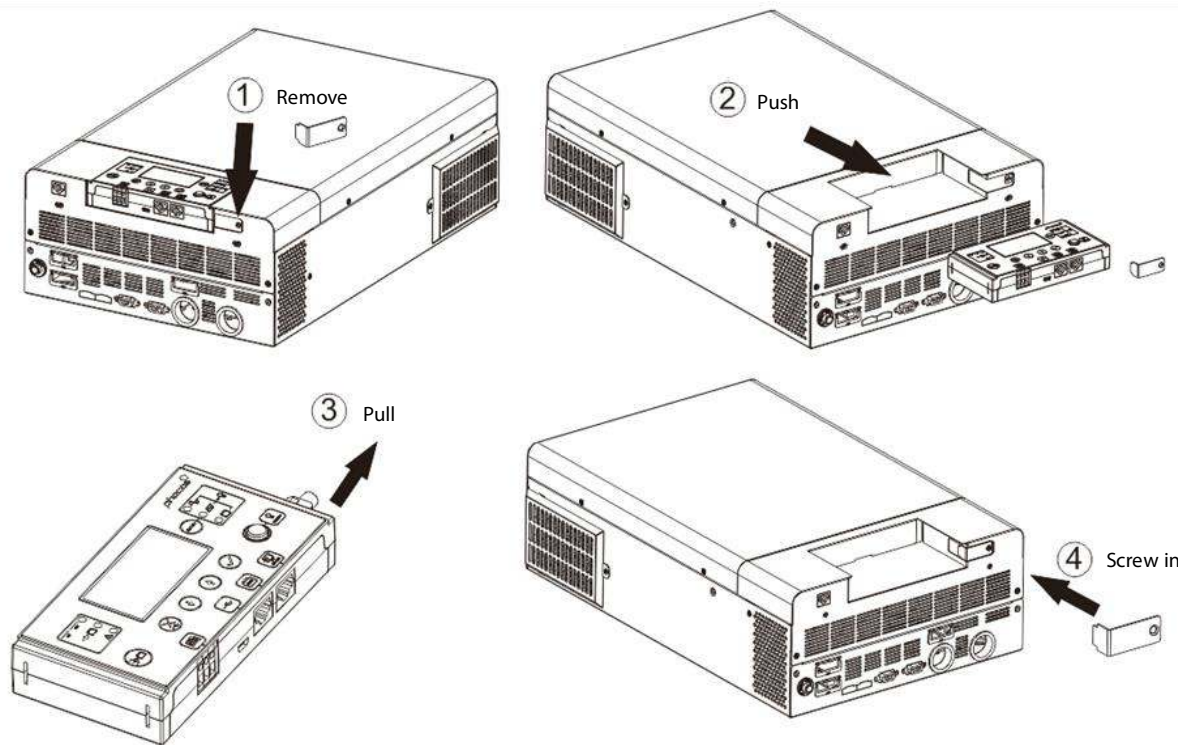

Fig. 11: Remote display removal
1. Remove the screw holding the bracket on the bottom of the display module (**Fig. 11** → ①) and push down the display unit from the case slightly while removing the metal bracket.
2. Keep pushing the display module down, taking care not to damage the connected cable (**Fig. 11** → ②).
- Remove the cable connected to the display module (Fig. 11 → ③).
- Screw the bracket removed in Fig. 11 → ① back in place (Fig. 11 → ④).